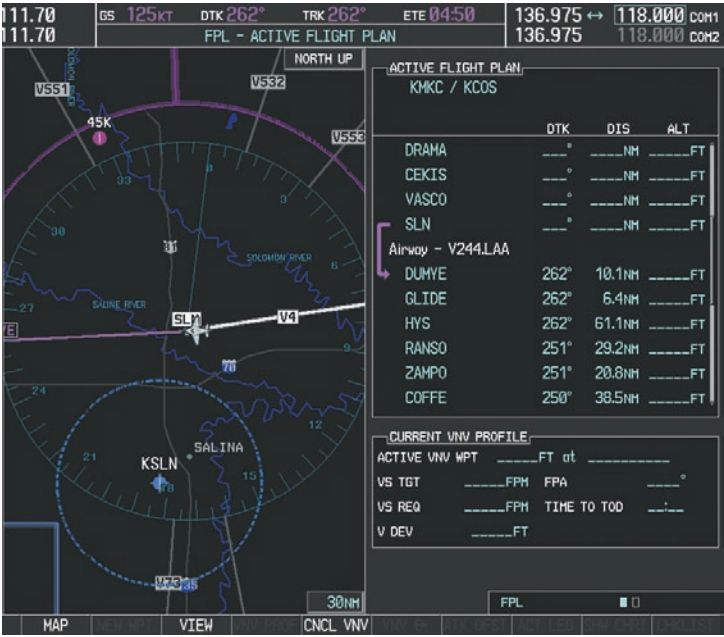

Figure 5-116 V244 Now Active Leg
9) As seen in Figure 5-116, V244 is now the active flight plan leg.